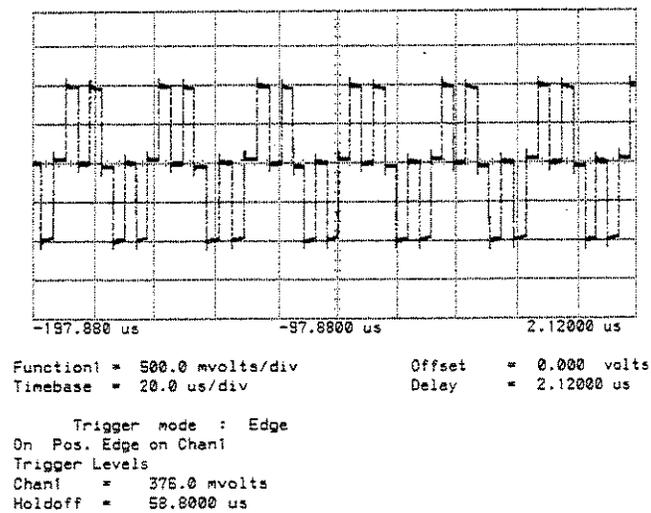

Figure 8-40 64 kbit/s Coded Output
- Re-adjust the Oscilloscope controls and check the display is as shown in Figure 8-40.